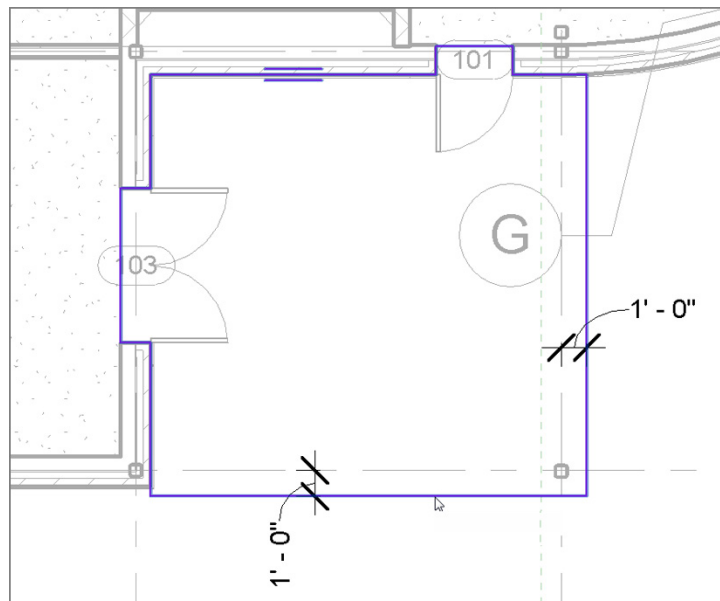

FIGURE 10.82: Sketching the slab perimeter
2. Zoom in on the radial entry of the east wing at grid intersection F-5 (see Figure 10.82).
13. Place the concrete at the points shown in Figure 10.82.